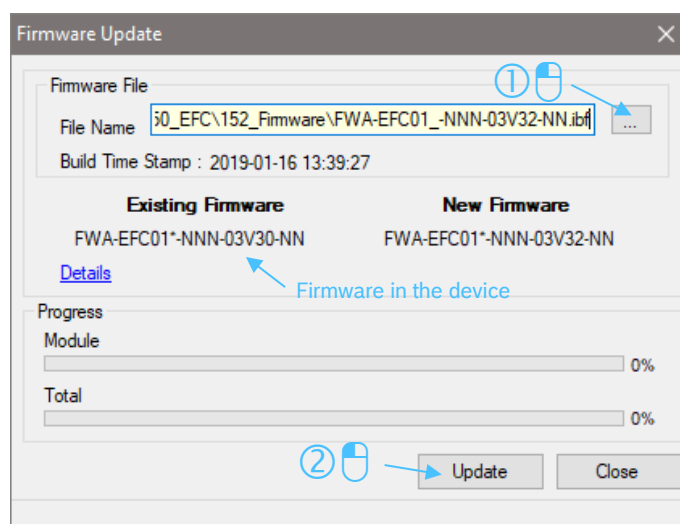

Abb. 13: Firmware update window
- Click on "..." to navigate to a firmware file (*.ibf) and download it to the device by clicking on "Update" (see Abb. 13: Firmware update window). A firmware downgrade would be performed in the same way.